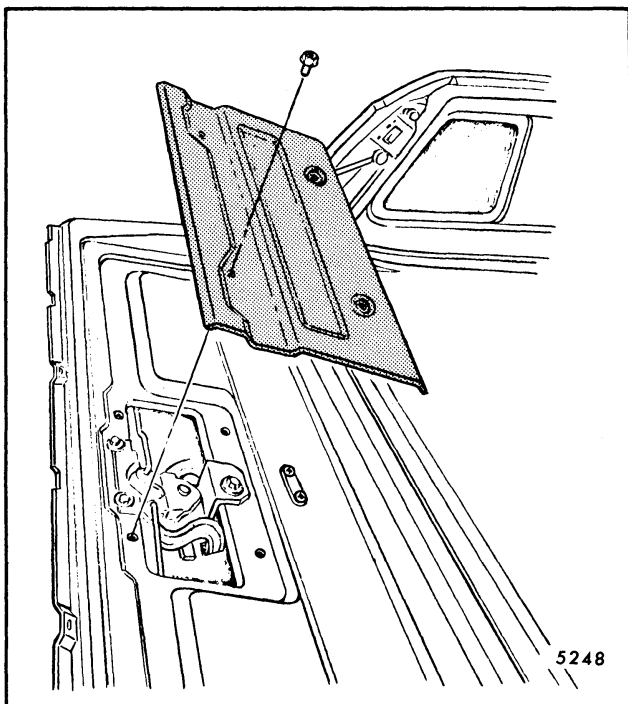

Fig. 7-75-Tail Gate Inner Panel Access Hole Cover
entirely by screws (Fig. 7-75). The cover panel may be removed with the tail gate in either the open or closed position.
1. Remove tail gate inner panel access hole cover (Fig. 7-75).